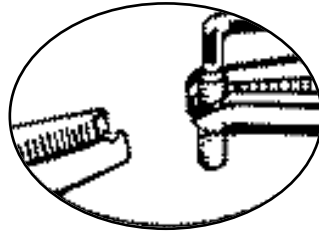
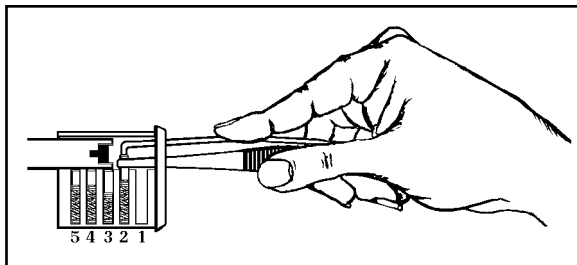

Fig. 1
Fig. 2
2. Place the follower back into the cylinder body until the tip is just to the rear of the No. 3 top pin chamber. Put a fresh cylinder spring into the chamber. Grasp a new top pin, with the grooved tip of the tweezers as shown in Fig. 1. Both ends of a top pin are of the same shape, so it can be placed into the chamber either end first. Start the top pin into its chamber by compressing the cylinder spring with the end of the top pin, while at the same time, pushing downward with the index finger on the pin loading wire of the tweezers, until it is completely into the chamber. See Fig. 2.